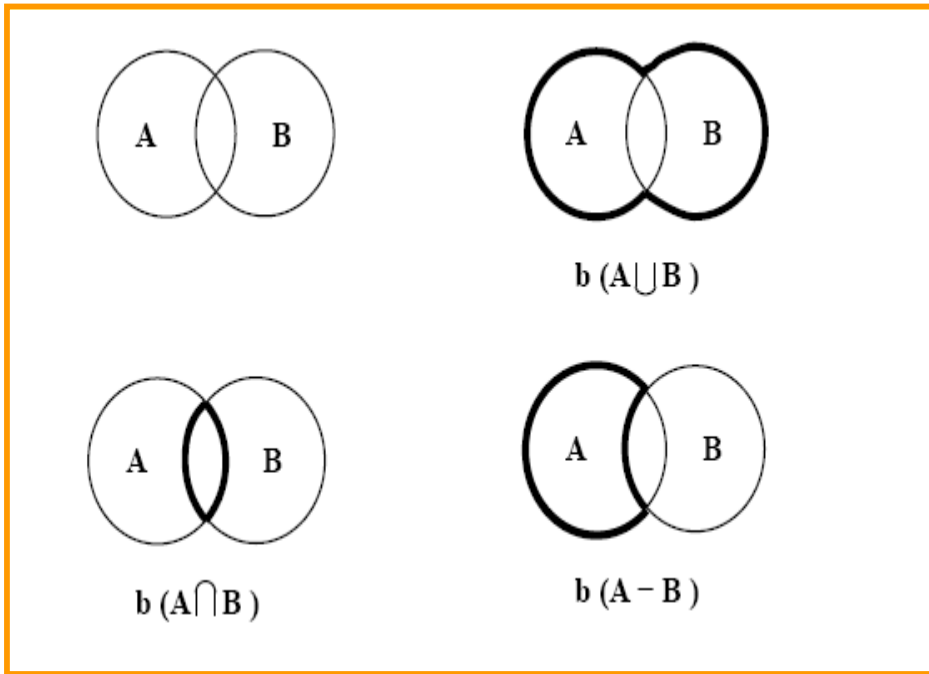

Figure 17: Boolean operators.
- **CSG tree structure:** This structure stores in a tree the history of applying Boolean operations (see Figure 17) on the primitives. This history is called *constructive solid geometry (CSG) representation*.